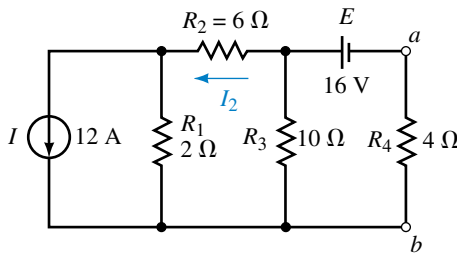

FIGURE 8-83
28. Use mesh analysis to solve for the loop currents in the circuit of Figure 8-83. Use your results to determine I_2 and V_{ab} .